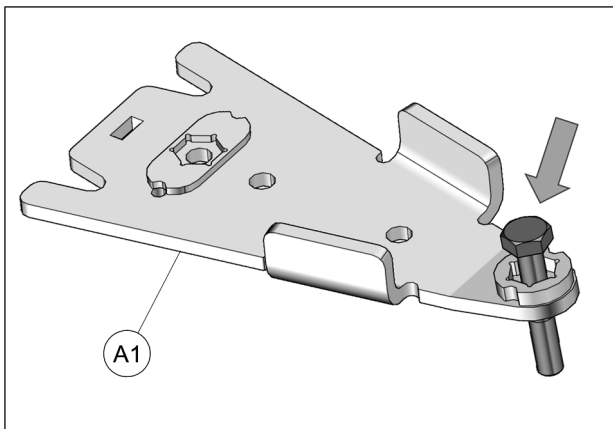

Fig. 15
4. Insert bolt in front anchor brackets (A1) as shown in Fig. 15